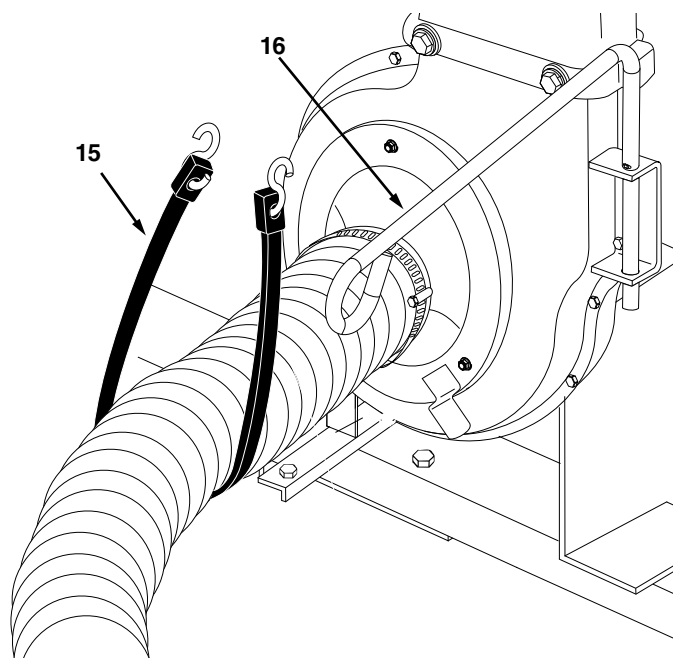

FIGURE 10
- Loop the 25" tarp strap (15) under the hose. Fasten the hooks to the hose hanger rod (16). See figure 10.